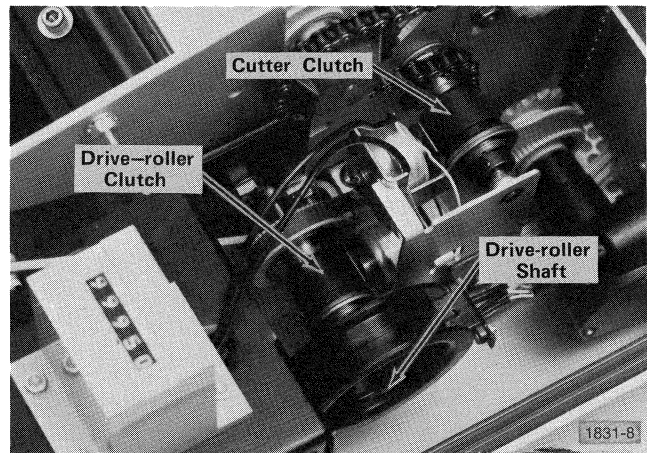

Fig. 4-6. Clutch locations.
- (1) Disconnect the red wire from the upper front terminal of the drive motor (right side of unit). Connect a 0 to 5 A dc ammeter between the wire and the motor, with the negative side of the meter connected to the upper front motor terminal and connect the positive side to the red wire.
- (2) CHECK for current during idle of 1.5-2.0 A (typical), not to exceed 2.2 A.
- (3) Press COPY. CHECK to see that the shafts associated with the two clutches operate smoothly without binding, and with no unusual noise (Fig. 4-6).
- (4) Remove the ammeter and reconnect the red wire to the motor terminal.